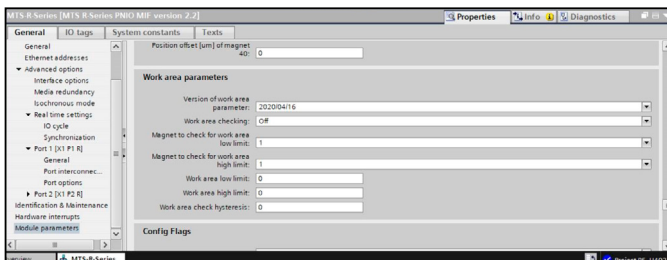

Fig. 82: Setting the switching points for the work area
• **Setting the switching points for input module “Sensor status 2”:** To read the information from the input module “Sensor status 2”, drag this module into the “Device Overview” window. In the “Module parameters” section of the sensor, you can set the parameters for switching points under “Work area parameters” (Fig. 82):